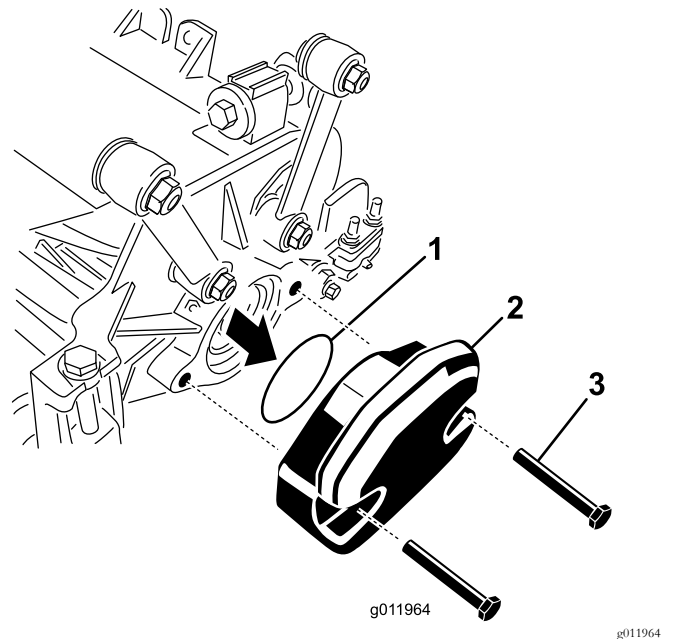

Figure 23
2. Remove the weight and O-ring (Figure 23) from the inside end of the right cutting unit.